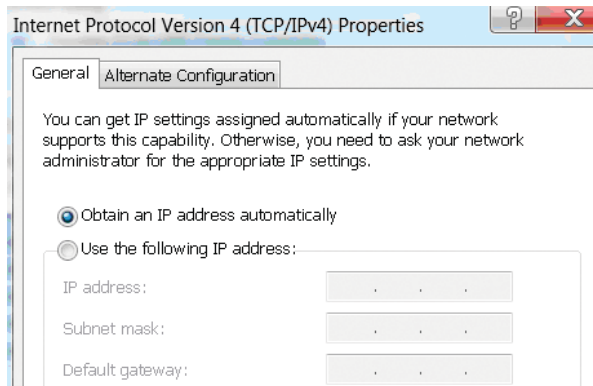

Figure 9-6 Internet Protocol (TCP/IP) Addressing
- a. The system has an IP that was automatically assigned by a DHCP server. In this case, the Properties screen appears like Figure 9-6, and the IP address is automatically assigned.